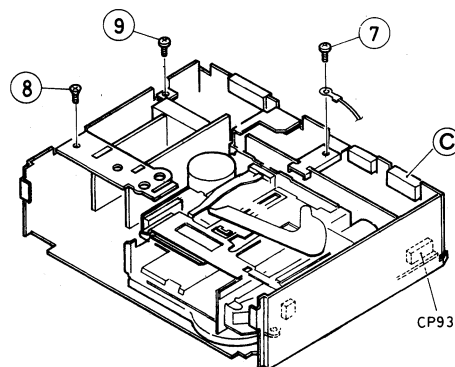

Fig. 3-5
■ Dolby NR PCB Assembly (Fig. 3-5)
2. Remove the set screw ⑦ in the Dolby PCB holder.
■ FM/AM PCB Assembly (Fig. 3-5 and 3-1)
2. Remove the set screw (8) in the PCB holder.
4. Remove the set screw (9) in the FM tuner pack shield plate.
5. If required, remove the set screw (10) in the rear bracket to remove the antenna cord.